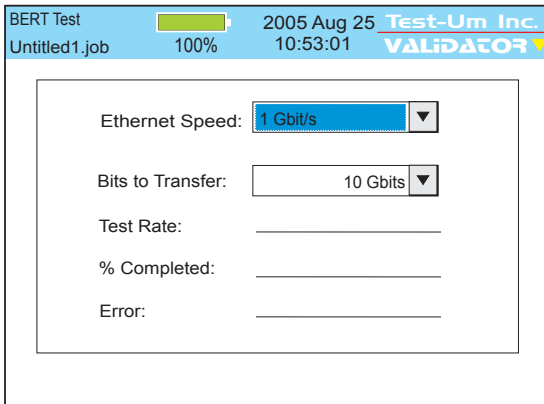

Figure 5.9 Bit Error Rate Test
1. From the Data Manual Tests screen, select the BERT Test button. (Figure 5.9)